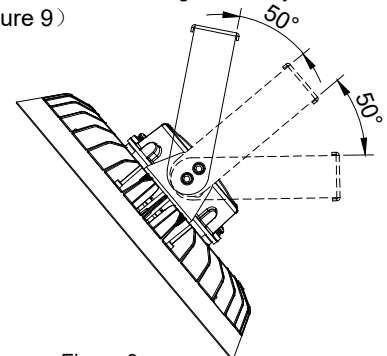

Figure 9
⑥ By adjusting the brackets screws,user can adjust 50° to the left or right vertically (Figure 9)